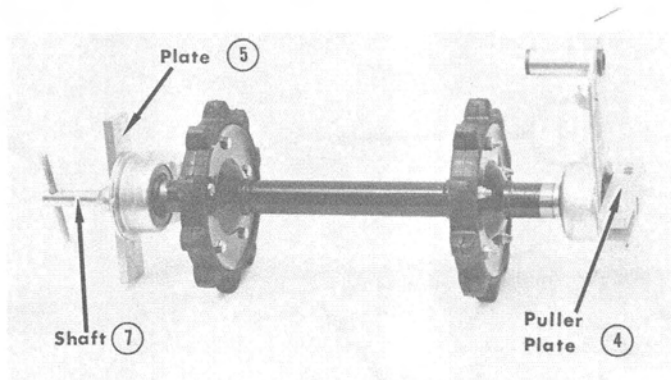

Figure 5. Installing Idler Arms
4. Install idler arms as shown in Figure 5.